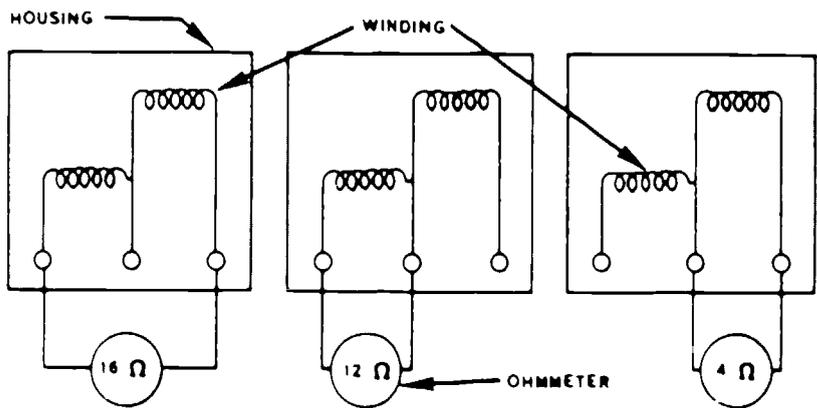

Figure 23. Taking Readings Across Terminals
- Use an ohmmeter to take a reading between terminals 1 and 3. See figure 23. Write down this reading. In this case, it is 16 ohms.
- Terminal Readings: (Figure 23.)
- The highest reading (1 and 3) is the RUN and START WINDINGS, figure 23, and this is read across the RUN and START TERMINALS. The remaining terminal (2) is the COMMON TERMINAL.